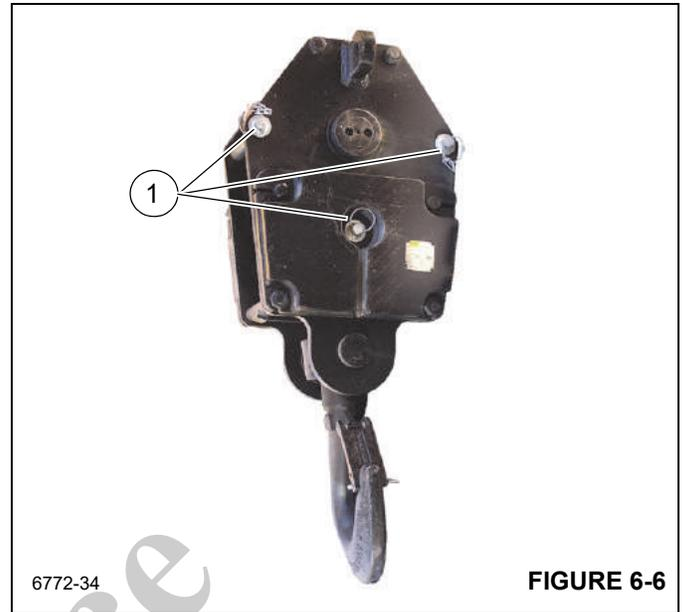

FIGURE 6-6
To quick reeve the hook block without removing the wedge socket on the end of the cable, remove the rods (1) (Figure 6-6) and route the wedge socket under the sheave.